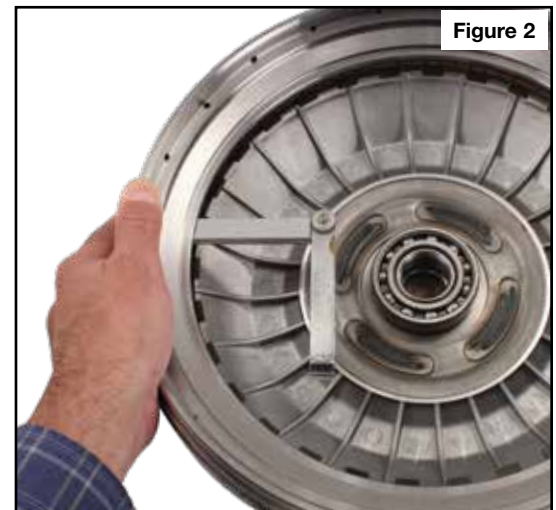
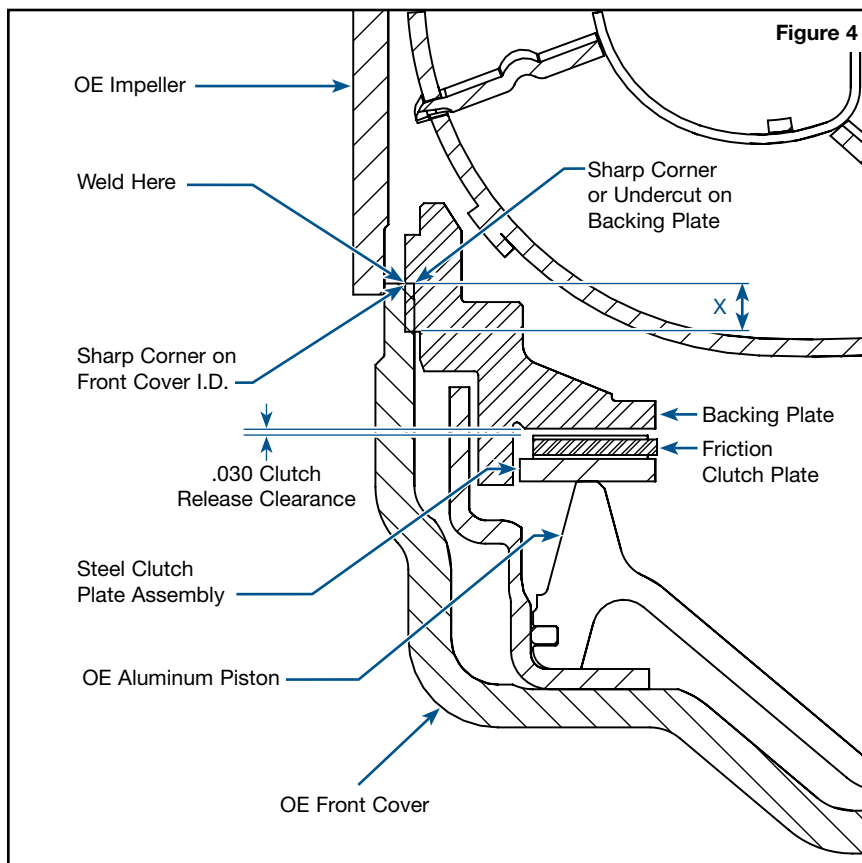

Figure 2
Figure 4
- d. Measure the gap between Sonnax friction plate and Sonnax backing plate reaction surface using a feeler gage while holding the backing plate down onto front cover (Figures 2 & 3).
- e. On a lathe remove measured feeler gage thickness minus the .030" clutch release clearance from Sonnax backing plate shoulder. In the example (Figures 2 & 3) a .2455" gap was measured. This needs to be reduced to .030". Therefore $.2455 - .030 = .2155$ " is the amount that needs to be turned off from the step on the backing plate to have the correct .030" clutch release clearance (See X distance in Figure 4). Ensure the new shoulder corner is sharp so that it will rest all the way on front cover lip surface.